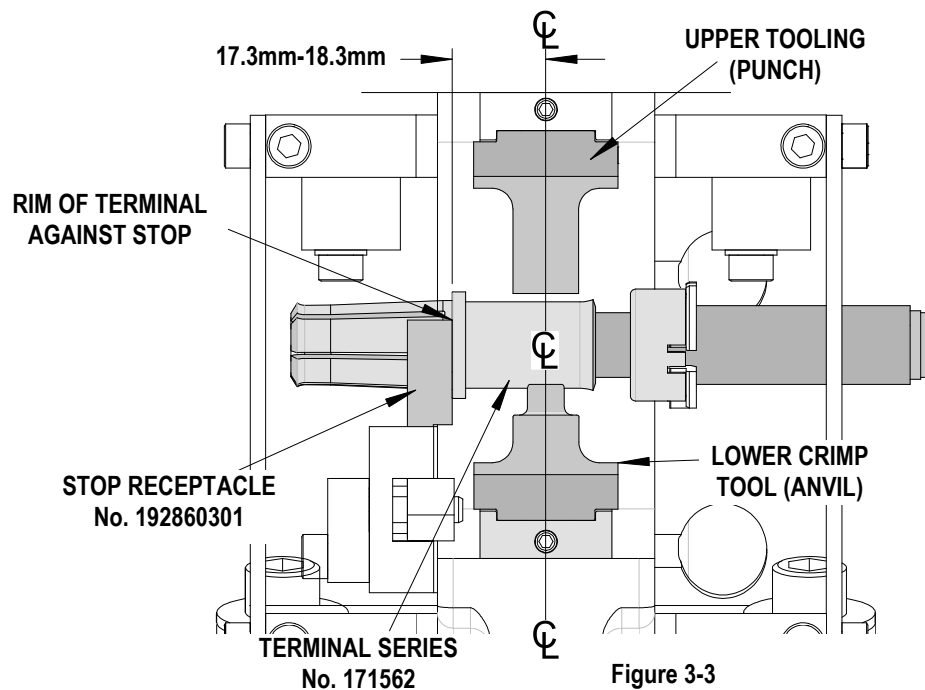

Figure 3-3
4. For the correct terminal placement and the proper locator see Figure 3-3 and 3-4.
The Terminal Location Adjustment must be adjusted, so that the crimp is located as shown on Figure 3-3 and 3-4.